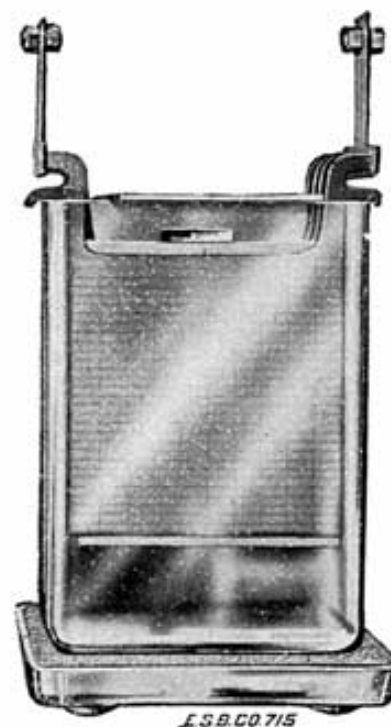

Fig. 324. Exide Cell with Open Glass Jar
1. The Exide Cell is shown in Fig. 324. It has a grooved wood separator between each positive and negative plate. The separators are kept from floating up by a glass "hold-down" laid across the top. The separators are provided at the top with a pin which rests on the adjoining plates. The pins together with the plate glass hold-downs keep the separators in Position.